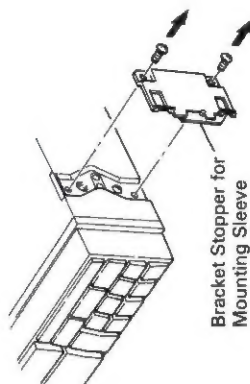

Fig. 5
1. Remove Bracket Stopper plate for mounting sleeve. (Fig. 5)